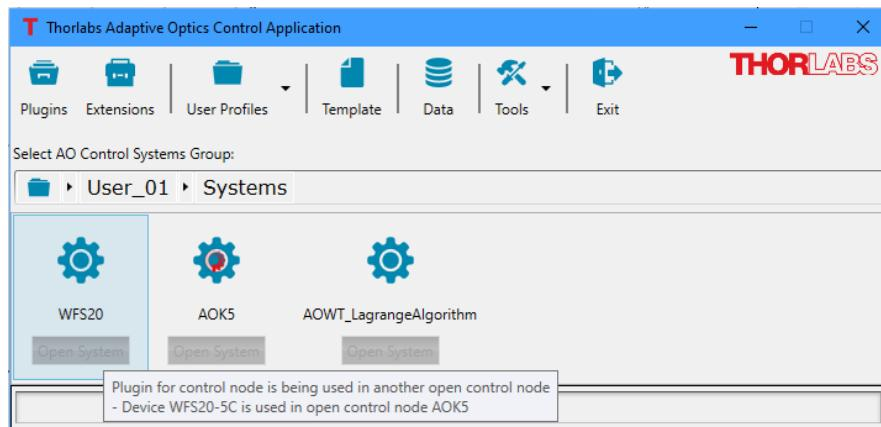
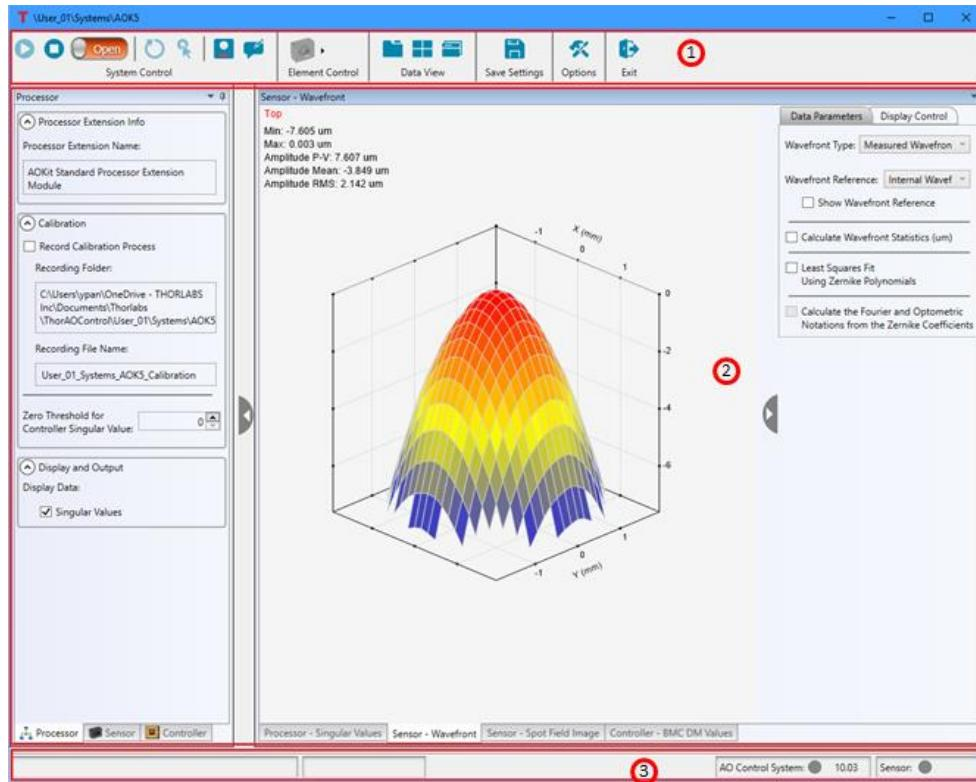

Figure 91 The Main Window Showing a Running Control System
Figure 92 Control System Window Regions
Clicking the **Open System** button under the selected control system icon (⚙) from the main window will bring up a Control System window. The clicked **Open System** button is disabled and overlaid with a running red circular progress bar (for example, see control system AOK5 in Figure 92). Some other **Open System** buttons may be disabled too, if the control system shares the devices with the running control system AOK5. For example, hovering the cursor over control system WFS20, a popup shows “**Device WFS20-5C is used in open control node AOK5**”, as seen in Figure 91.
The Control System window contains three (3) sections, which are common to all user defined systems. The specific content will vary between systems. See Figure 92. The three sections are: 1) Toolbar/Controls, 2) Elements parameters and element data display, and 3) Status area.